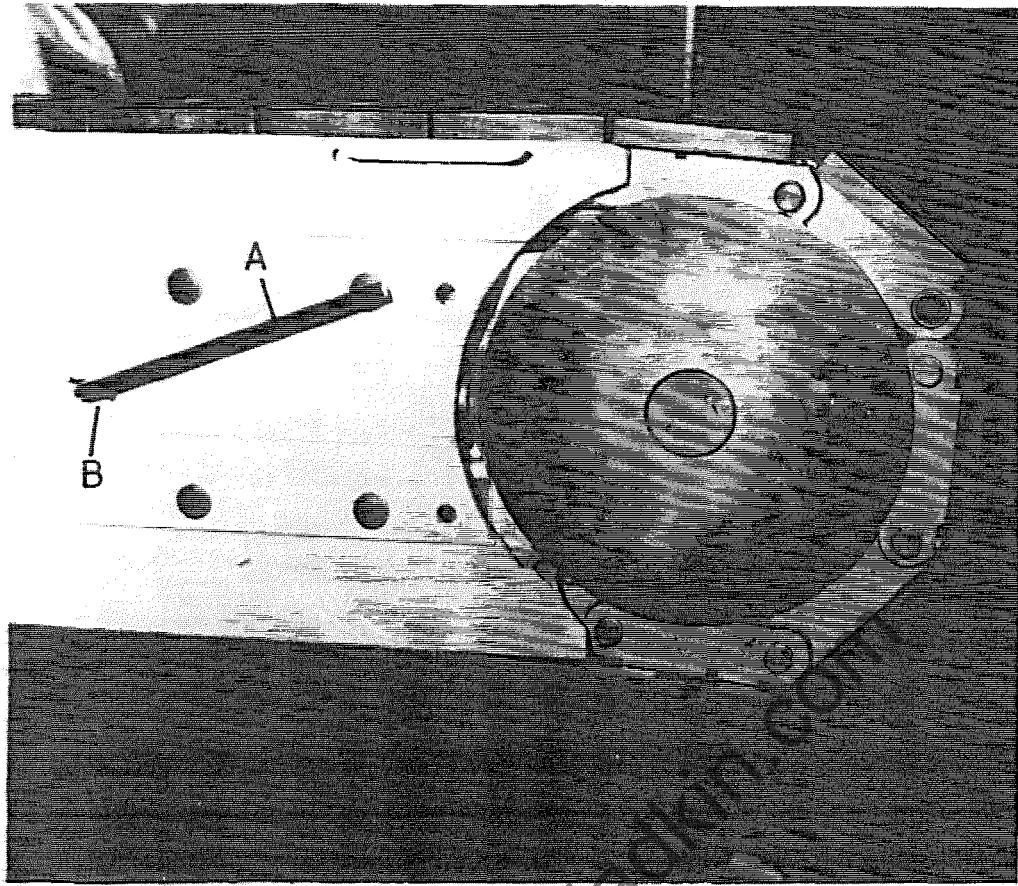

FIG. 47
- 1 Release 8mm allen screws with long arm hexagon wrench "A" FIG.47 (supplied) in either side of each beam.